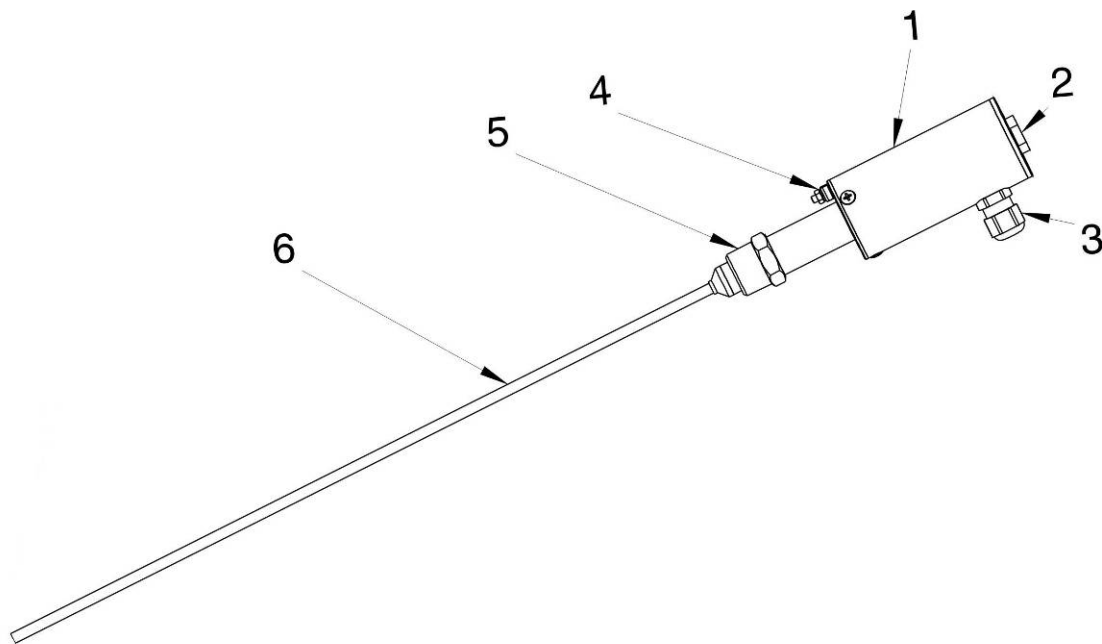

Figure 1: The CONDURIX level sensor
The design of the CONDURIX level sensor is illustrated in Figure 1 with the screw-in unit version as an example. Inside the sensor head (1) of the level sensor and concealed by a cap (2) are the protected terminals and configuration buttons. The electrical connection is established by means of an M16x1.5 screwed cable gland (3) and screw terminals or by an M12 plug-in connection. The potential equalization terminal (4) is required only in conjunction with the CONDURIX Mono version (see section 5 Electrical connection). On the probe neck, there is either a screw-in unit (5) or a flange (not shown) for installing the probe in the container.